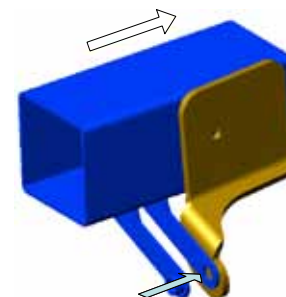

Figure 69
- Mark (scribe) drill location of strut rod-end hole through OE bracket to right hand stiffener tab. Figure 69
- Mark the frame around the stiffener tab where it contacts the frame. Remove stiffener plate. Figure 69